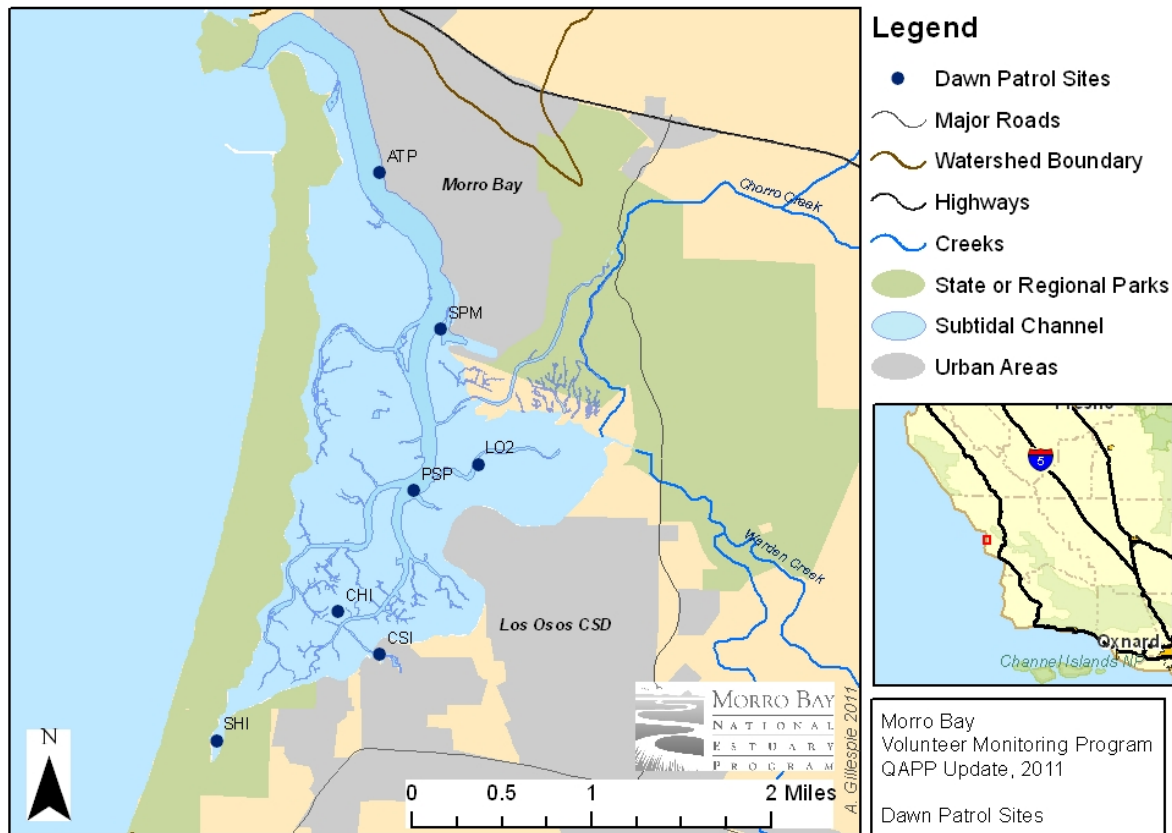

**Figure 6.4.4. MBNEP Creek Water Quality Monitoring Locations**
- Figure 6.4.4: MBNEP creek water quality monitoring locations